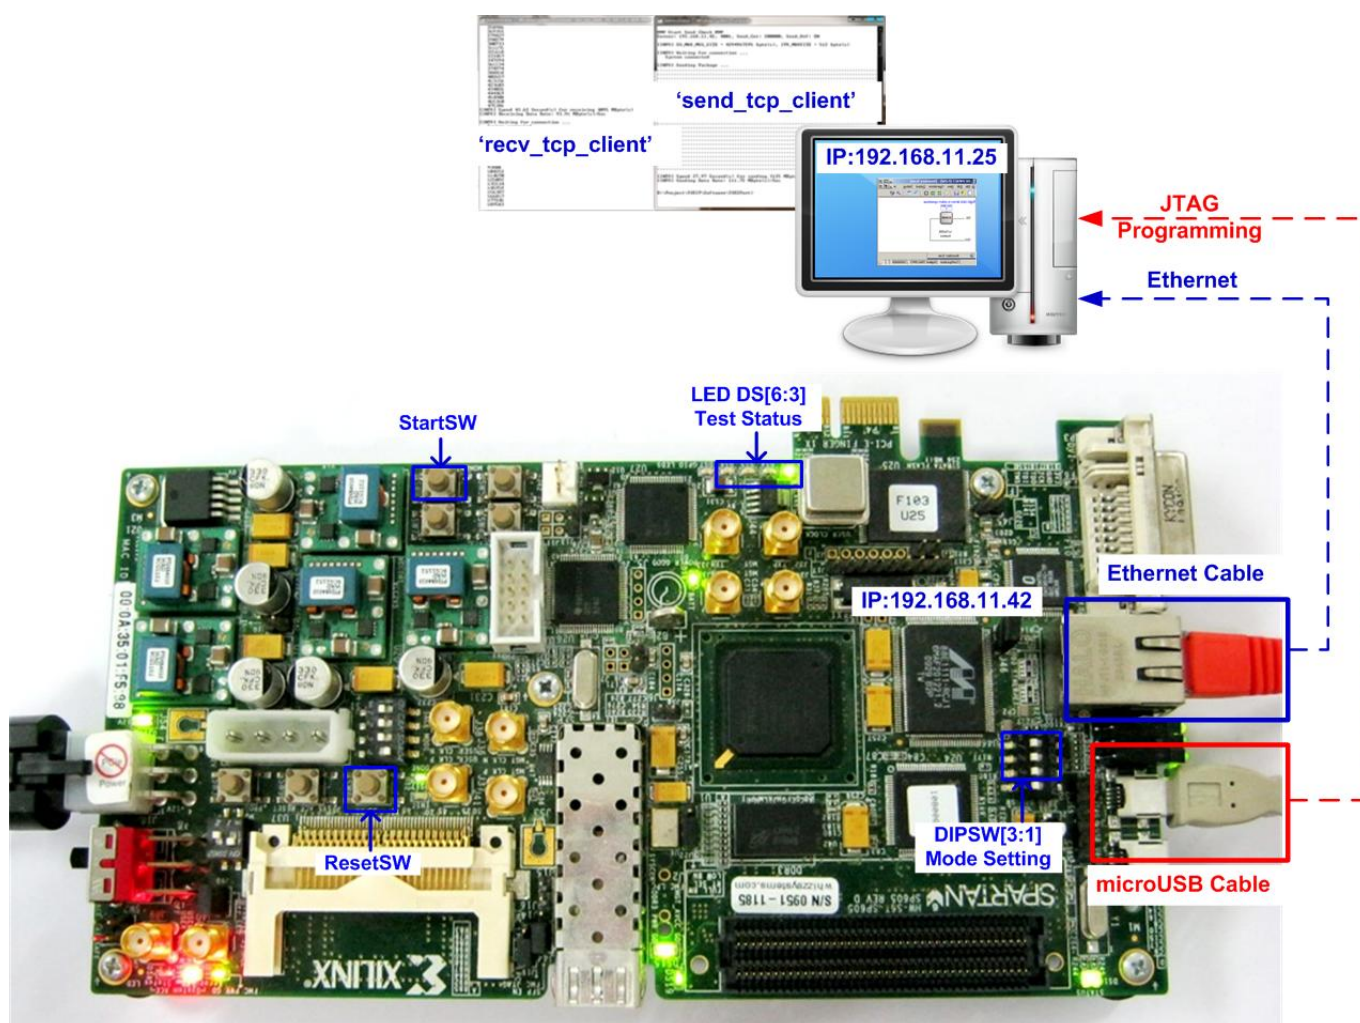

Figure 1-1 TOE1G-IP Demo Environment Setup
As shown in Figure 1-1, to run TOE1G-IP send demo, please prepare
- 10) Press StartSW as shown in Figure 1-1 (SW8) to start the system initialization.